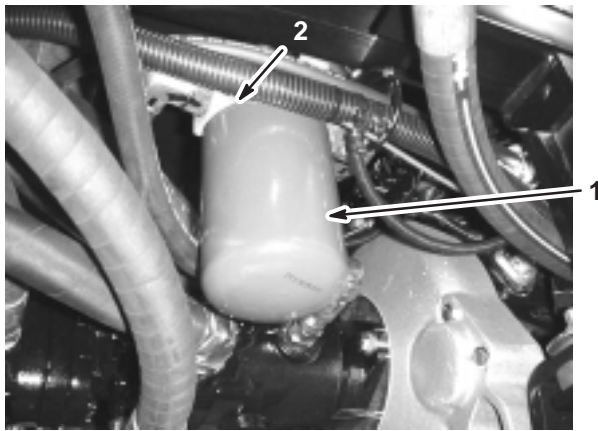

Figure 39
2. Clean the area around the filter mounting area (Fig. 39).
4. Remove the filter (Fig. 39).
5. Lubricate the new filter gasket (Fig. 39).